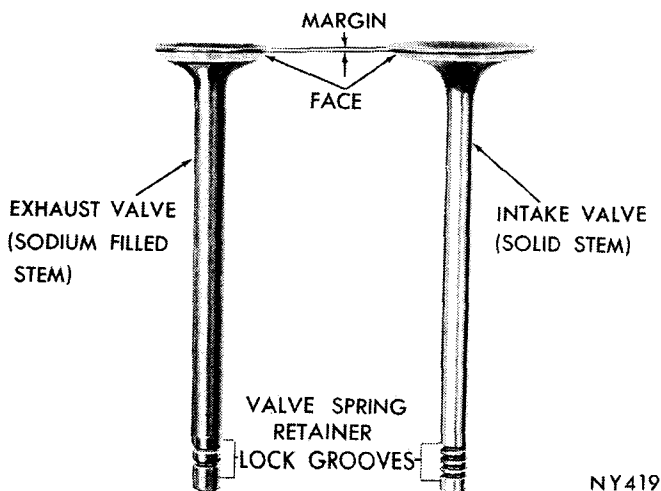

Fig. 8—Intake and Exhaust Valves
- (1) The intake and exhaust valve faces have a 45 degree angle. Always inspect the remaining margin after the valves are refaced (Fig. 8). Valves with less than 1/32 inch margin should be discarded.
- (2) The angle of both valve and seat should be identical. When refacing valve seats, it is important the correct size valve guide pilot be used for re-seating stones. A true and complete surface must be obtained.
- (3) Measure the concentricity of the valve seat using valve seat dial indicator No. 13725. The total